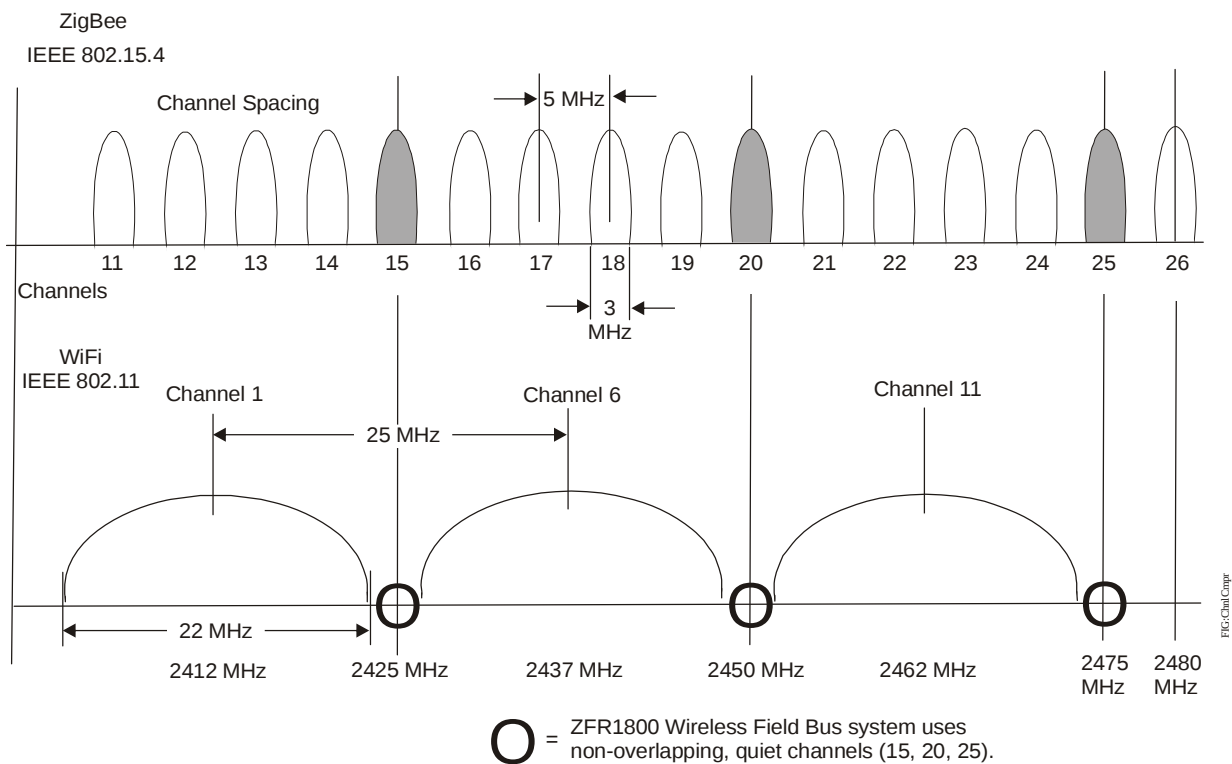

Figure 23: Comparing Channel Spacing of the ZigBee and WiFi Networks
The Media Access Control (MAC) layer uses a Carrier Sense Multiple Access with Collision Avoidance (CSMA/CA) mechanism. This layer transmits beacon requests, synchronizations, and message retries. The physical layer of the ZigBee network uses the 2.4 GHz radio band. Channels 11 to 26 are available in this band. Figure 23 illustrates the details and provides a comparison of ZigBee and Wireless Fidelity (WiFi) network channel spacing.
This ZigBee network has 16 channels available for use (Channels 11 through 26, shown in Figure 23). In North America, the ZFR1800 Series System uses channels 11 through 25. By default, the ZFR1810 coordinator is configured for use in North America, and uses channels 15, 20, and 25.
These channels were selected for the ZFR1800 Series System because they do not overlap with channels used on an IEEE 802.11 WiFi network. To illustrate, Figure 23 compares the channel spacing of the ZigBee and WiFi networks. Notice that the IEEE 802.15.4 channels of operation used by the wireless Metasys systems do not overlap and, therefore, avoid interference with the WiFi network.
Use CCT to select a different subset that has been preselected based on the country or region of use. These channel subsets were selected because they do not overlap or interfere with channels used on WiFi channels used in those regions. To illustrate, Figure 23 is a diagram showing the channel spacing of the ZigBee and WiFi networks for North America.
- The ZFR1800 Series Wireless Field Bus System operates on the same frequency band as IEEE 802.11 WiFi networks, but uses different channels. The ZFR1800 Series System automatically selects non-overlapping, quiet channels (for example, 15, 20, and 25). See Figure 23.